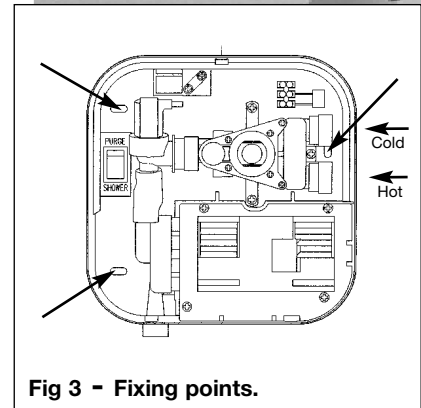

Fig 3 - Fixing points.
6. Mark the fixing points for the unit, Fig 3.